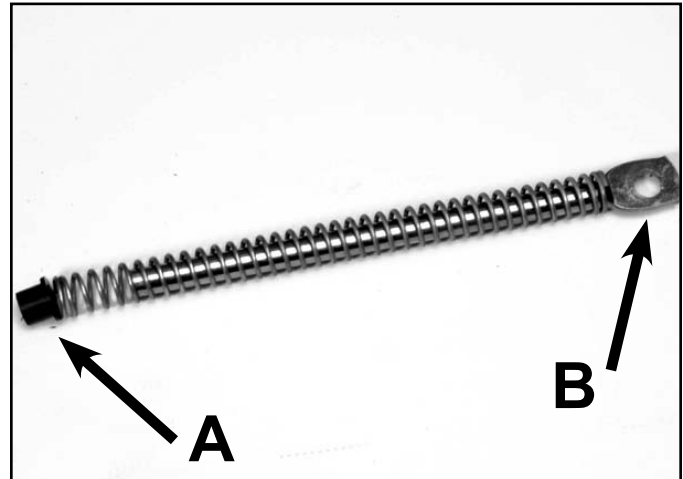

Fig 172
11. Remove the brake plate and hub assembly from the housing and disassemble the seal/oil impregnated bushing, the hub, self-tapping capscrew, and washer from the brake lever. Be careful not to lose the plastic bushing which fits on the end of the brake spring rod (Fig. 172).